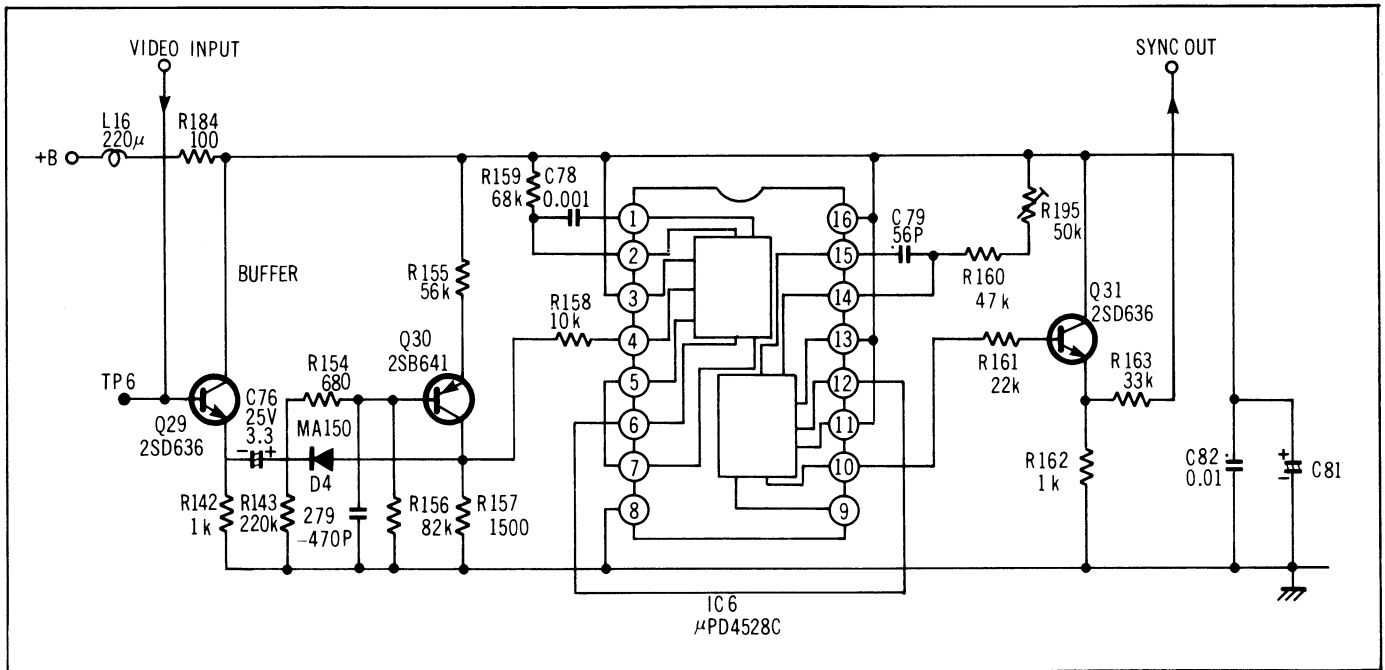

Figure 2-107
The positive going H sync and equalizing pulses trigger a monostable multivibrator (IC6-(1) -(7)) whose period is greater than 0.5 H (40 μ sec) and less than 1 H, determined by C78 and R159. The output of IC6 pin (6) (Fig. 2-107) goes negative when triggered.